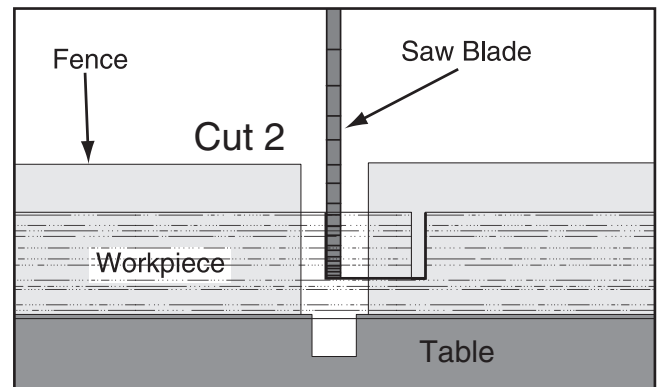

Figure 61. Second cut for a single-blade dado.
6. Repeat cutting operation on other side of dado, as shown in Figure 61.